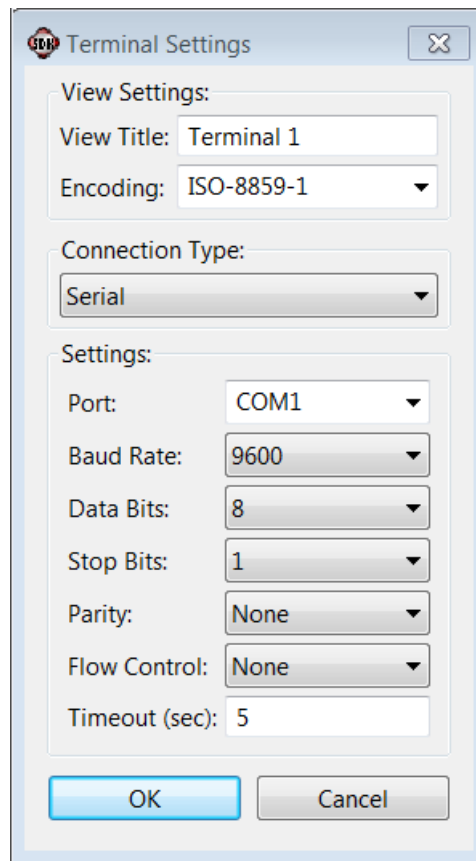

Figure 129: Terminal Settings Dialog Box
3. Specify the parameters as shown in FIGURE 129, and click **OK**.